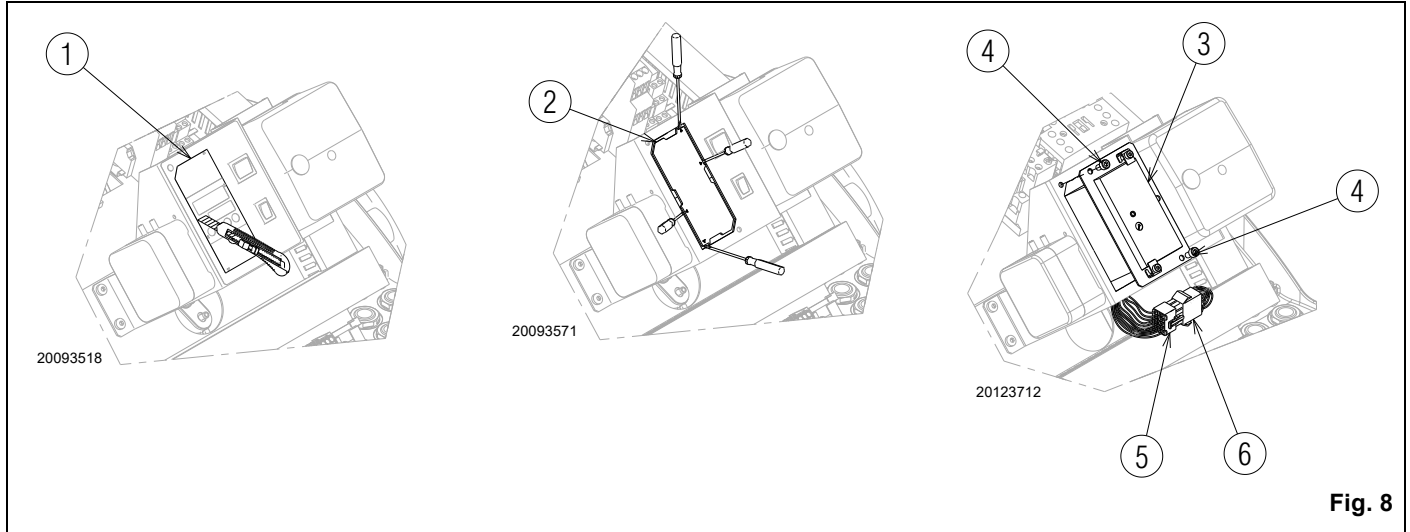

Fig. 8
- Cut along the highlighted line in 1)(Fig. 8);
- remove the cover plate 2)(Fig. 8), by prying with a screwdriver in the four indicated points;